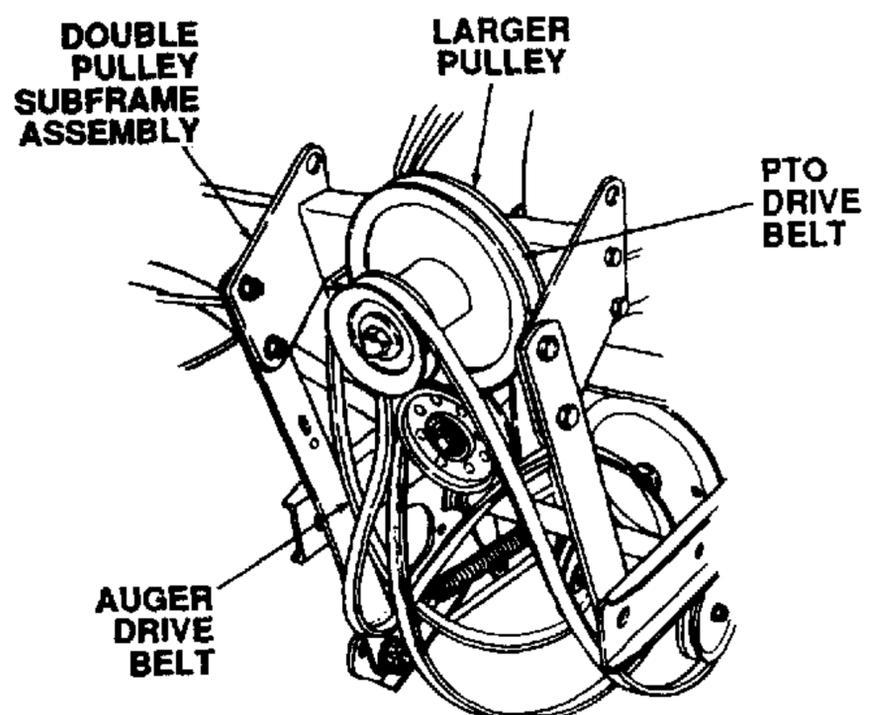

Figure 7-42. Remove PTO Drive Belt.
- c. Pivot the subframe up. See Figure 7-42.
- d. Lift the auger drive belt off the smaller pulley. Refer to Figure 7-42.